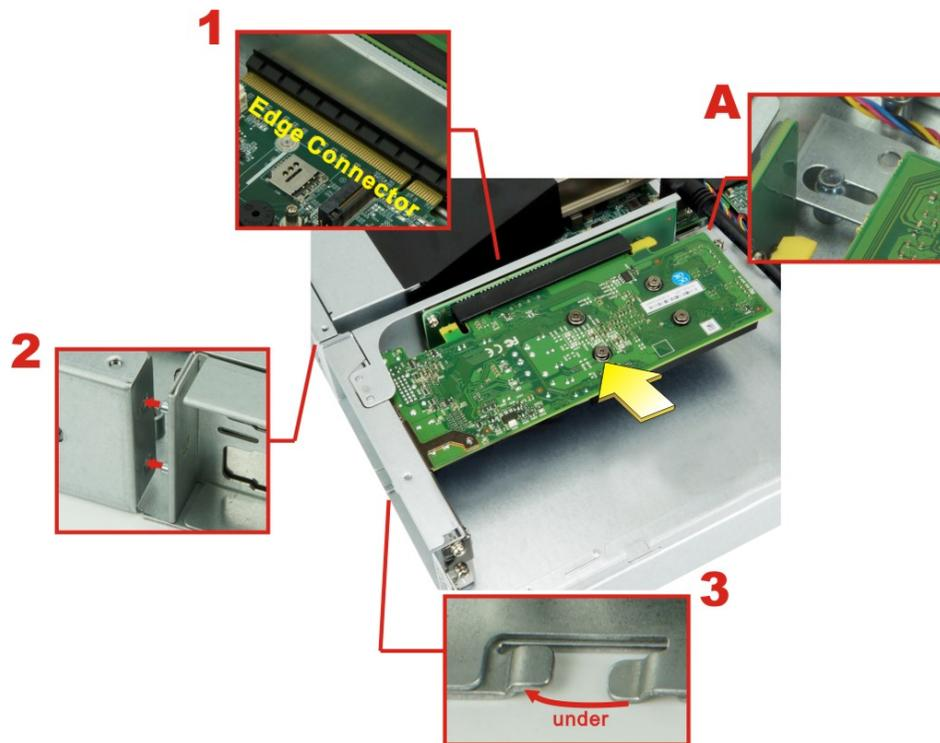

Figure 3-10: Expansion Slot Module Installation
Step 6: Place the expansion slot module back to the original position by hooking the slotted hole into the positioning stud in the chassis (**Figure 3-10 A**). Push the connector of the expansion slot module into the edge connector to install it. During installation, ensure that